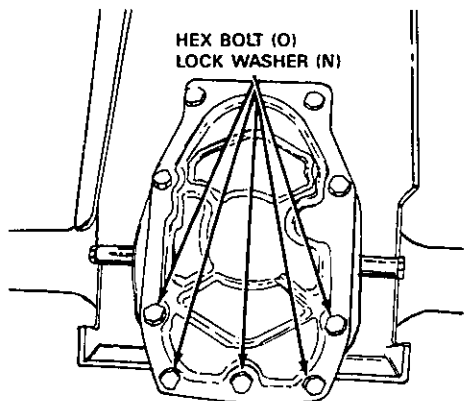

FIGURE 14
10. Replace the hardware removed from rear plate of transmission in step 8 with five 3/4" long patch bolts (O) and 3/8" lock washers (N). See figure 14.